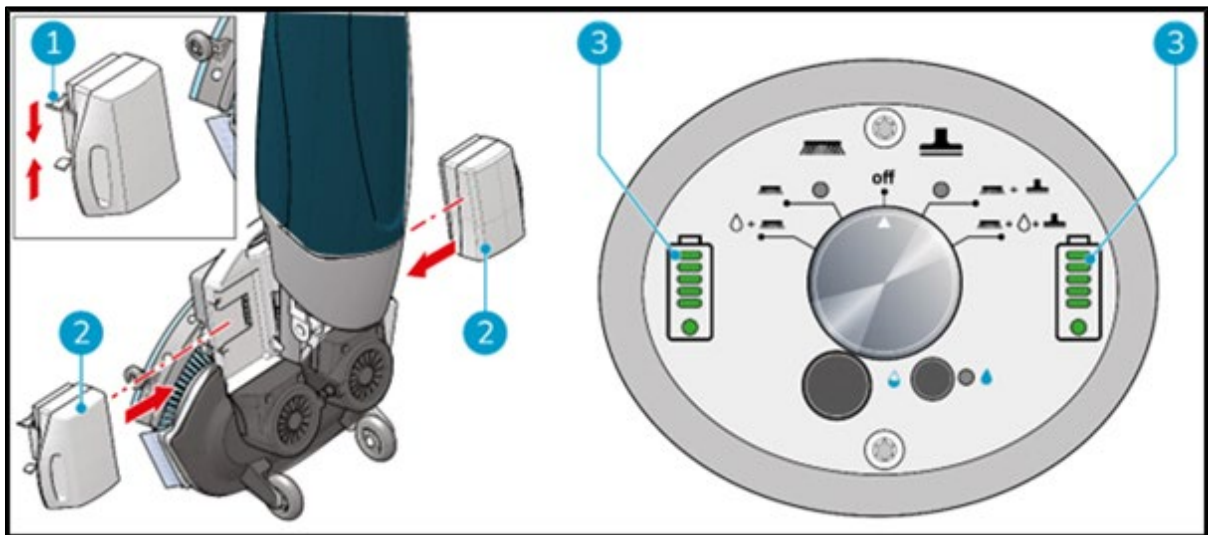

Figure 14
1. Push the blue coded battery (Figure 14, pos 2) in the blue battery slot. A click indicates that the battery is locked in place (Figure 14, pos 1).
3. During operation, the battery indicators (Figure 14., pos 3) on the control panel show the amount of power left.